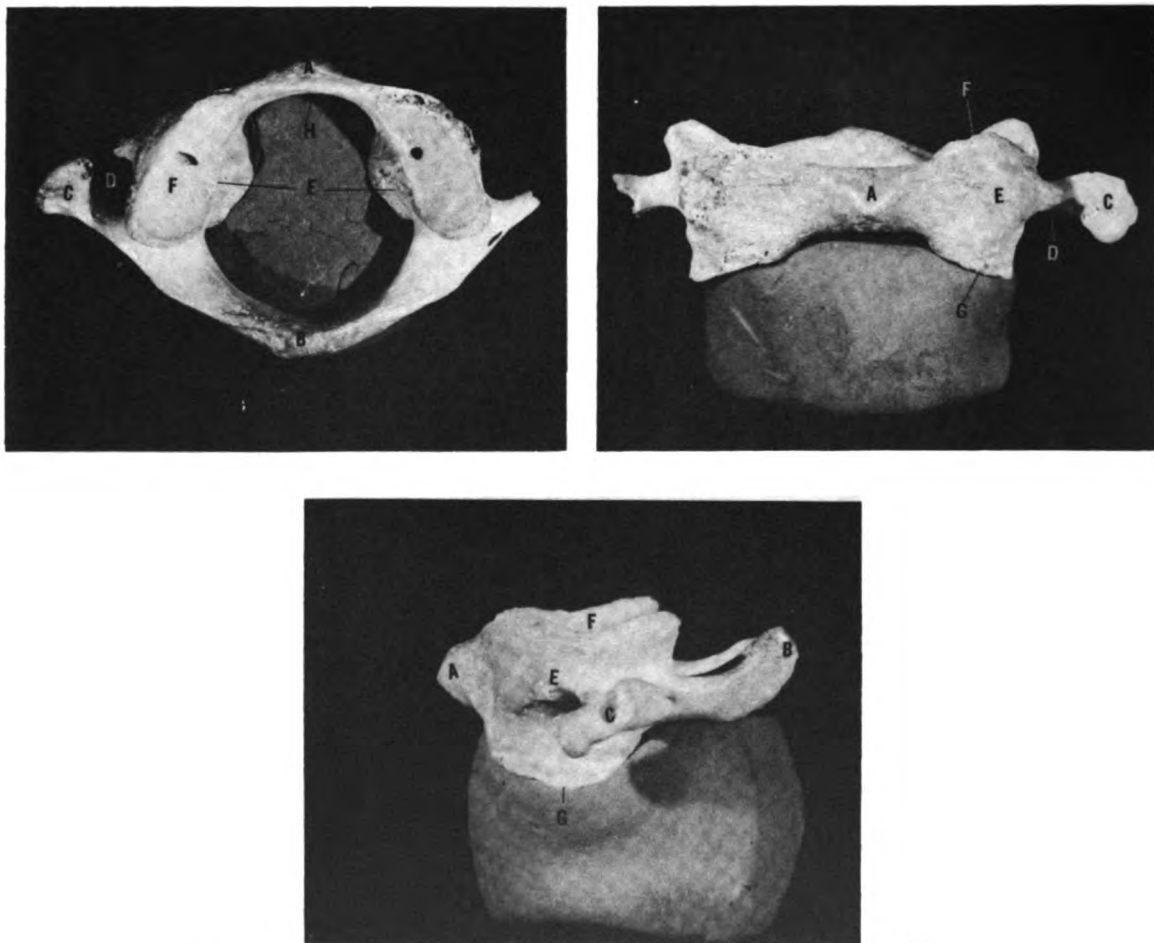

Figure 4-18 Atlas - Superior, AP and Lateral Views
The Cervical. There are seven cervical vertebrae. The first cervical is known as the ATLAS. It is different from typical vertebra. It is a ring of bone and has no body. The structures of the atlas are ANTERIOR TUBERCLE (A), POSTERIOR TUBERCLE (B), TRANSVERSE PROCESS (C), TRANSVERSE FORAMEN (D), LATERAL MASS (E), SUPERIOR (F) AND INFERIOR (G) ARTICULAR FACETS AND FACET FOR THE ODONTOID PROCESS (H). All these structures are located on the anterior half of the ring with the exception of the posterior tubercle. This tubercle is located on the midline of the posterior half of the ring on the outside surface (Figure 4-18).